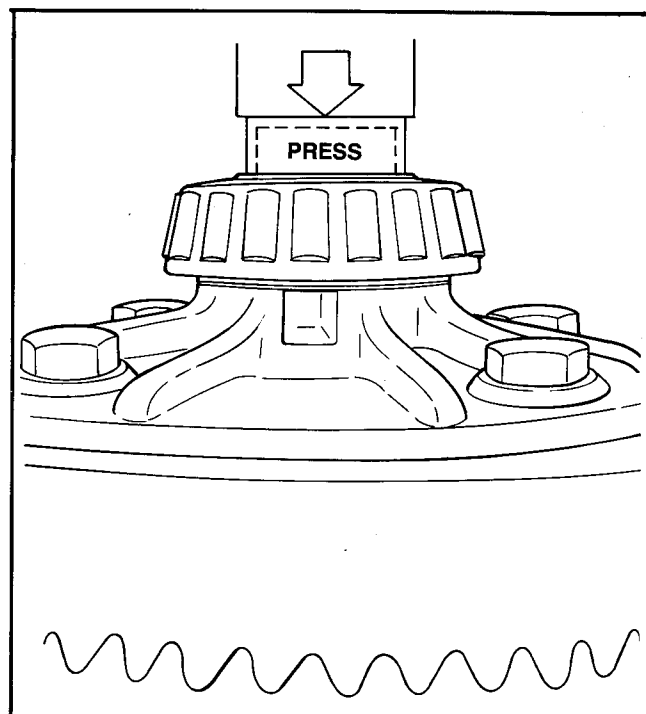

Figure 31 – Pressing on Differential Bearings
- e. When pressing on new differential bearings (8 or 3), original shims (11) may be reused in their original location if they were not damaged during disassembly. If new shims are used, be sure they are the same thickness as originals. Press on inner race of bearing only, Figure 31.